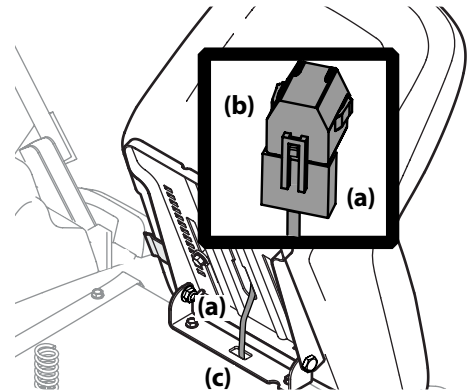

Figure 2-12
4. If necessary, securely connect the seat switch wiring harness (a) to the seat switch (b) as shown in Figure 2-12. Be sure to push the excess wire from the wire harness into the seat box hole (c) before continuing.